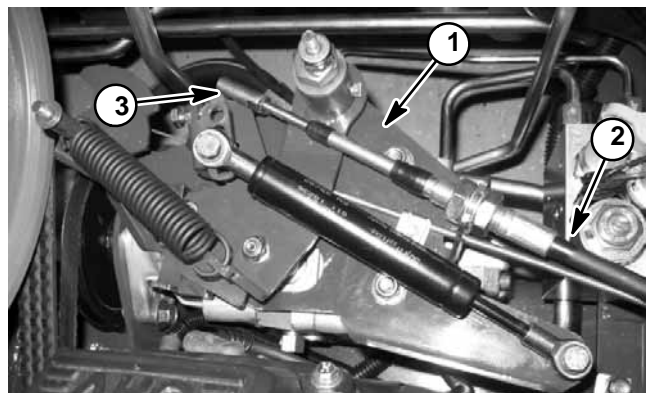
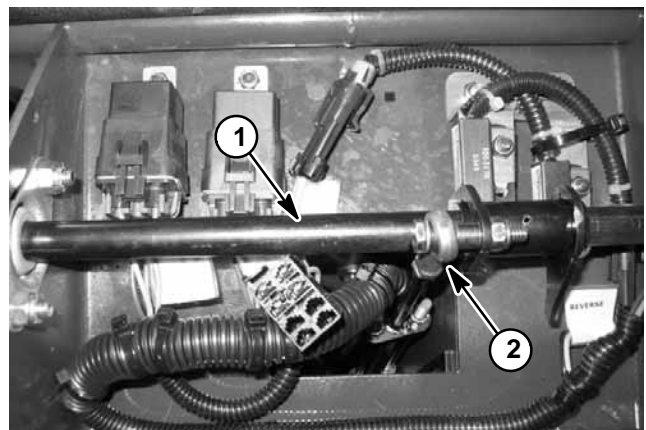

Figure 10
Figure 11
1. Remove traction control cable from hydraulic pump control (Fig. 10) and traction lever on handle and (Fig. 11).